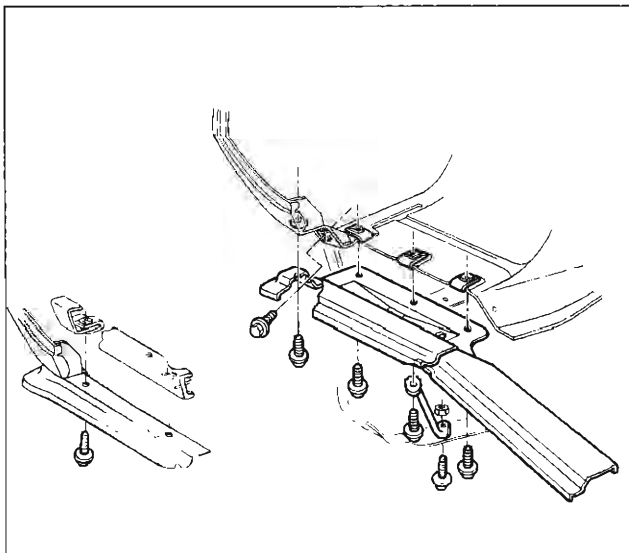

Fig. 17—Bumper Filler Panel to Fender and Skirt
11. Remove fender extension attachment at brace (fig. 17).
are somewhat shorter than the others. Note also the location of pointed screws. Detach fender extension brace at extension (See Figure 17).